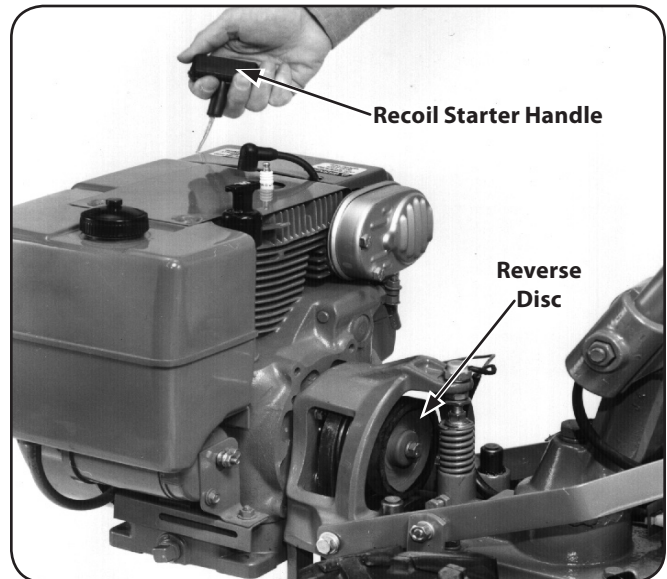

Figure 6-20
2. Place Wheels/Tines/PTO Drive Lever in NEUTRAL. Briefly pull out the engine recoil starter handle while watching the reverse disc. The disc should turn, but lower pulley should not. See Fig. 6-20. If the reverse disc turns the lower pulley, or if it is located closer than $\frac{3}{16}$ " to the pulley, reverse adjustment bolt should be adjusted upward. Moving the adjustment bolt upward will also solve problem of a tiller that goes into REVERSE on its own.